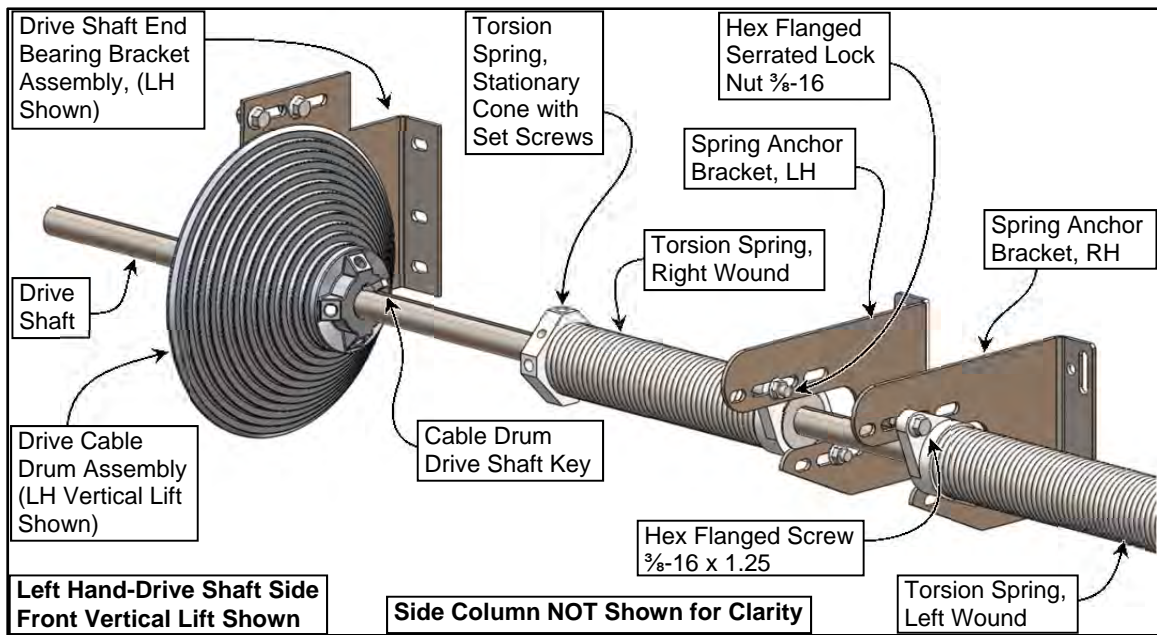

Figure 29
4. Check that the torsion spring assembly set screws are properly locked down to the drive shaft and anchor brackets to hold it in place. (See Figure 29)
5. Check that all keys are in place, the spring is positioned properly, and all fasteners securely tightened. (See Figure 29)
3. Check that the drum assembly set screws are properly locked down to the drive shaft & hold it in place. (See Figure 29)
4. Check that all keys & brackets are securely in place, the drive shaft is positioned properly, and all fasteners securely tightened. (See Figure 29)